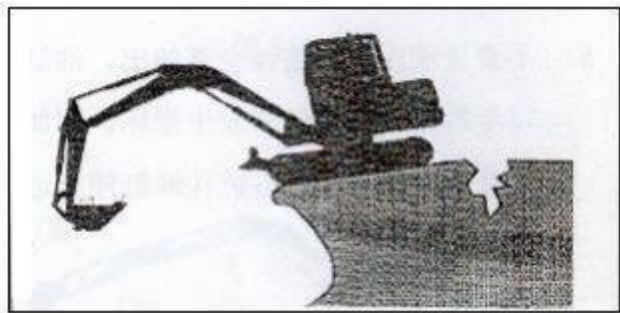

Fig 3-33
10. Do not dig under the excavator (Figure 3-33).